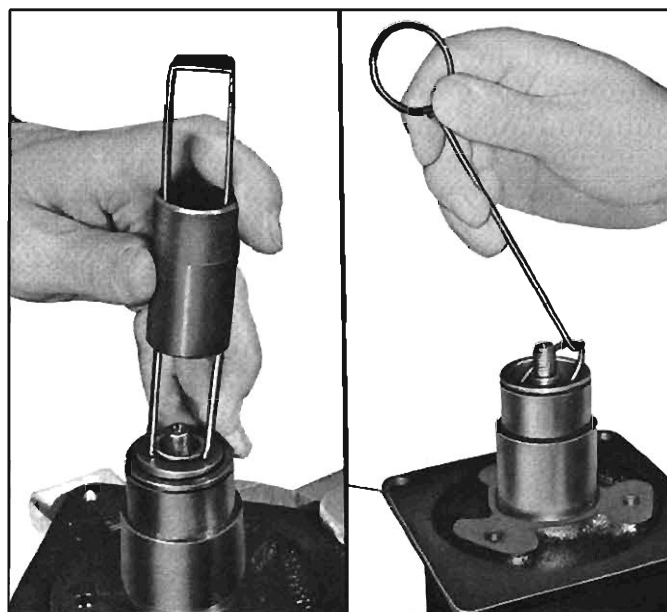

Fig. 11-41—Removing Seal Seat
3. Using Tool J-9393 (1 and 2), grasp the flange on the seal seat and lift out the seal seat (fig. 11-41).
5. Remove the seal seat “O” ring from the housing bore using Tool J-9553 (fig. 11-41).